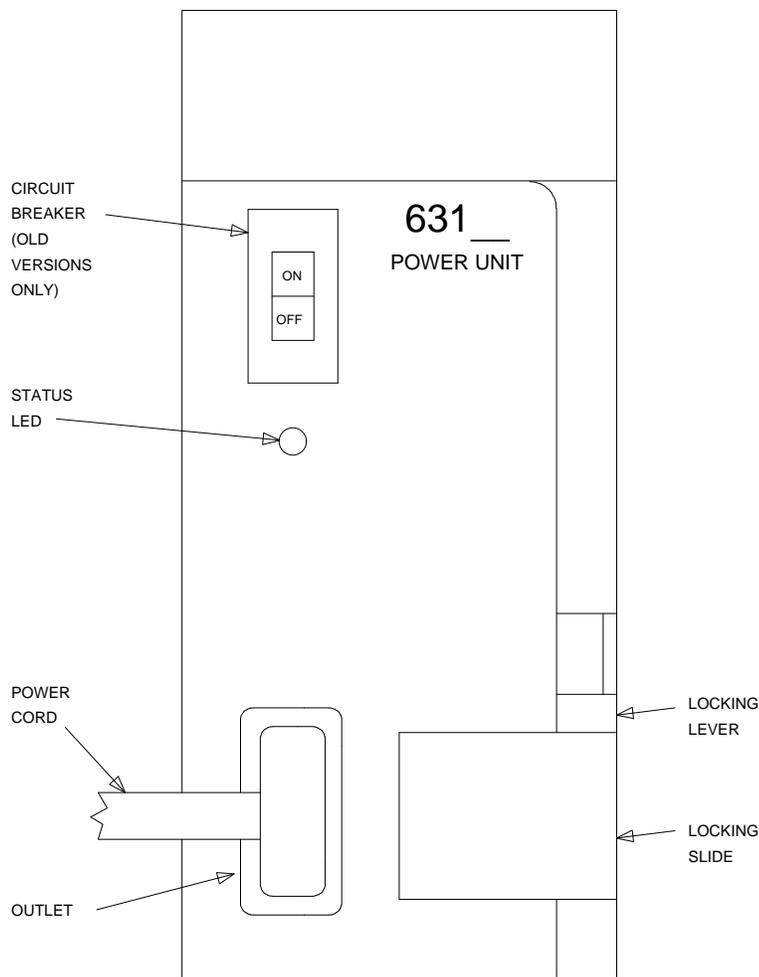

Figure 4-17. 631-Type Power Unit
10. Connect the power cords to the power units. The power cords are the white cables equipped with plugs that are run through the slots in the front of each carrier (see Figure 4-17).